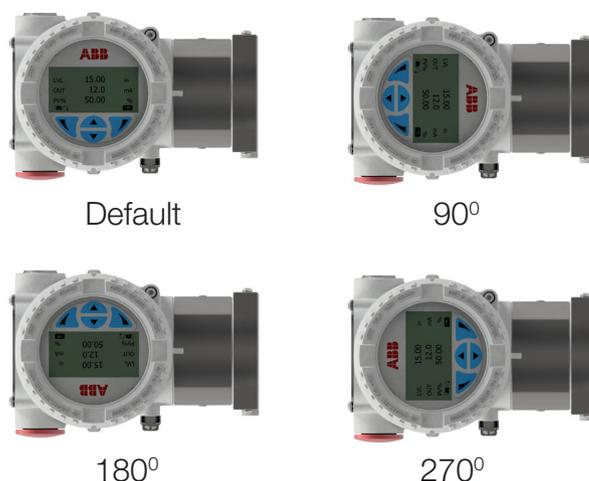

Figure 5.8 – Windowed front cover and HMI display
- This enables + 90° or + 180° rotations (see Figure 5.8).